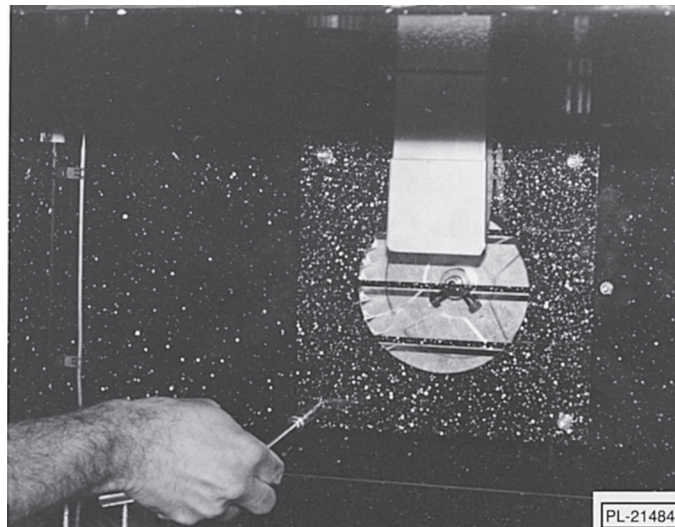

Fig. 54
6. From inside the oven cavity, remove (4) $\frac{1}{4}$ -20 hex head nuts from the fan wheel cover located on the rear wall of the oven cavity (Fig. 54).